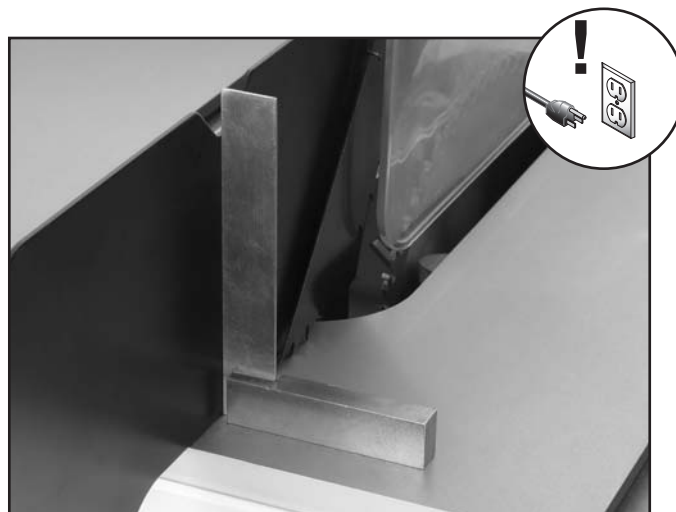

Figure 27. Blade guard perpendicular to the table.
7. Loosen the hex bolts that secure the mounting bracket to the shaft and align the face of the blade guard perpendicular to the table surface (**Figure 27**).